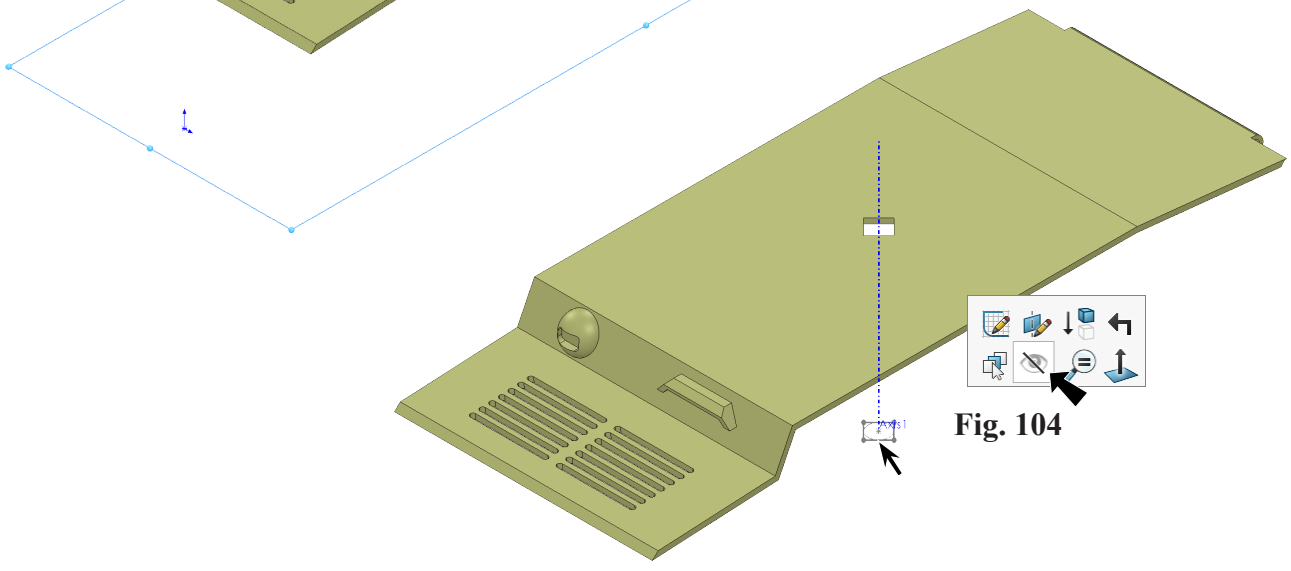

Fig. 104
Step 4 **Hide Sketch4 and Sketch10**. To hide, click **Sketches** in graphic area and **Hide**  on the context toolbar, **Fig. 104**. Don't hide Axis.